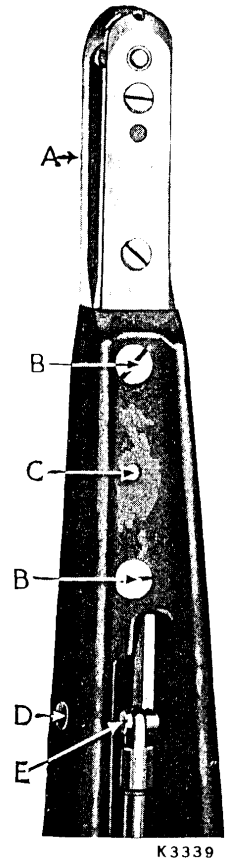

Fig. 19.
Remove the machine head from the treadle stand, or power bench, by taking out the four screws. The head should now be tipped endwise with the underside of the horn facing you. Withdraw the two screws (E) and remove the cover plate so as to expose the parts in the rack box (see Fig. 18), any or all of which can be removed without disconnecting the rack box from the machine. To take out the shuttle carrier, remove the small set screw in the shuttle carrier pinion by inserting a small screw driver through the groove (G) at the side of the rack box. The shuttle carrier can then be pressed through the pinion. To remove the long rack (J) insert the screw driver through the hole (D) (see Fig. 19) and take out the screw. Before, however, withdrawing the rack remove the pinion (L); then grip the rack and draw it in a straight-away manner towards the pulley end of the machine. The short rack (K) and shuttle driver pinion (H) can be removed without difficulty. When replacing the parts, care must be taken to see that the gears and racks are correctly enmeshed, as shown in the illustration.
Instructions for the Removal of the Rack Box (See Fig. 19)